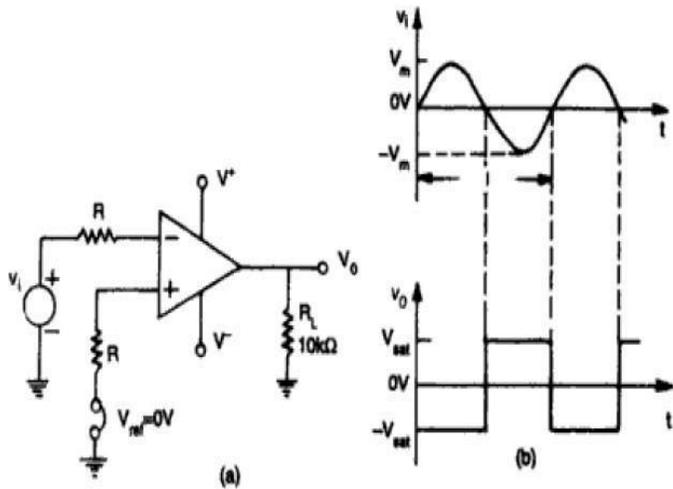

Fig. 5.4 (a) Zero crossing detector (b) Input and output waveforms
- The basic comparators either non-inverting or inverting can be used as a zero crossing detector provided that  $V_{ref}$  is set to zero. An inverting zero-crossing detector is shown in figure 5.4 (a).